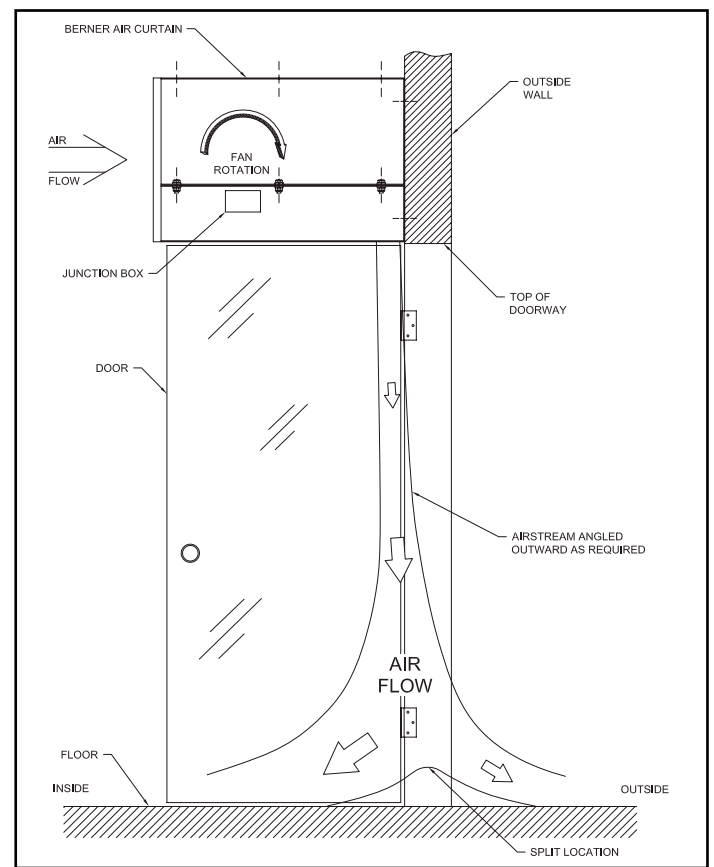

Figure 7
(See Figure 7)
- B. Adjust the angle of the air stream by turning the vanes in the outlet nozzle until the split lies just outside the door threshold. **See Figure 7.**